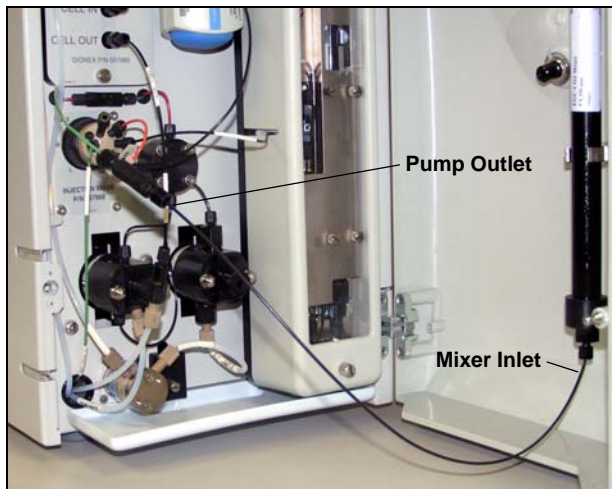

Figure 5-64. Pump Outlet Connected to Mixer Inlet for Mixer Hydration
4. Connect the pump outlet to the mixer inlet (see Figure 5-64).